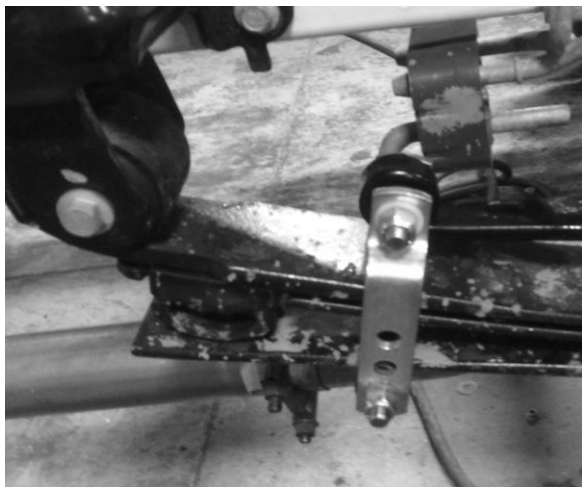

Fig. 3
Step 5: Attach front shackle (Fig. 3)